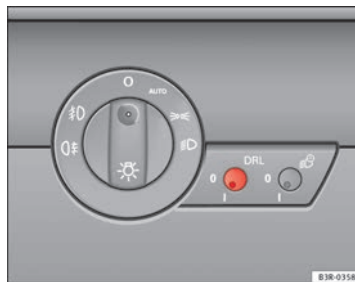

Fig. 89 Daytime running lights switch
- Briefly press the knob ⇒ Fig. 89 to release it from its set position.